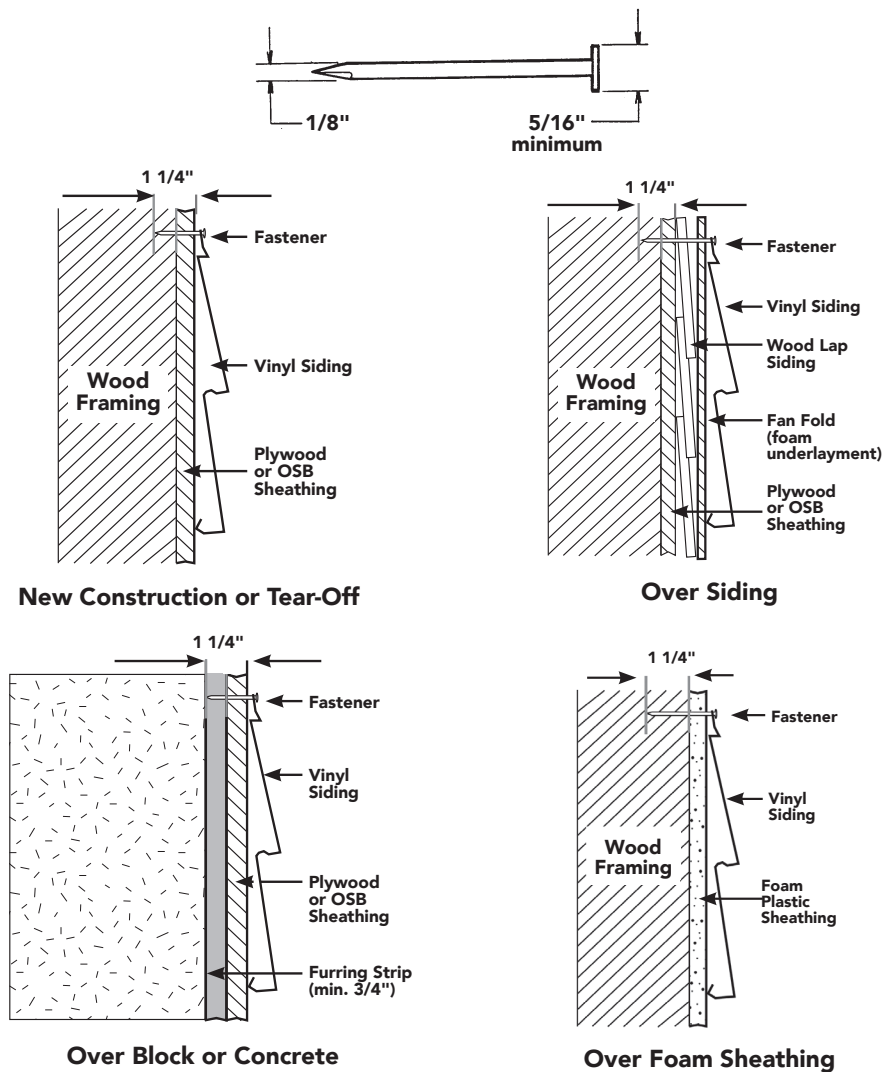

Figure 13
Nail heads should be 5/16" (7.9mm) minimum in diameter. Shank should be 1/8" (3.2mm) in diameter (Figure 13).
- For staple length refer to Figure 13 diagrams.